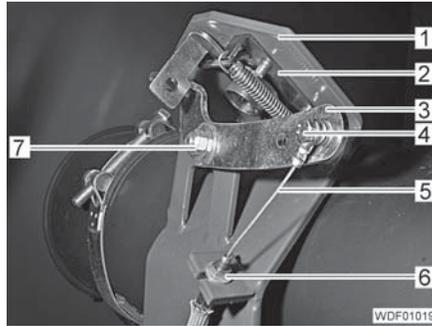

Fig. 281 Locking mechanism of engine hood
- Unscrew the screw (Fig. 281,4).
- Unscrew the nut (Fig. 281,7).
- Remove the lever (Fig. 281,3).
- Mark the position of the lock (Fig. 281,2) on the mount (Fig. 281,1).
- Unscrew the nut (Fig. 281,6).
- Remove the Bowden cable (Fig. 281,5) from the mounting bracket by pulling it forwards.
- Push the Bowden cable (Fig. 281,5) into the mounting bracket from the front.
- Screw the nut (Fig. 281,6) onto the Bowden cable and tighten it.
- Tension the Bowden cable and shorten it sufficiently so that the end of the Bowden cable reaches as far as lever (Fig. 281,3).
- Place the lever (Fig. 281,3) into position.
- Screw the nut (Fig. 281,7) onto the screw and tighten it so that the lever can still be pivoted.